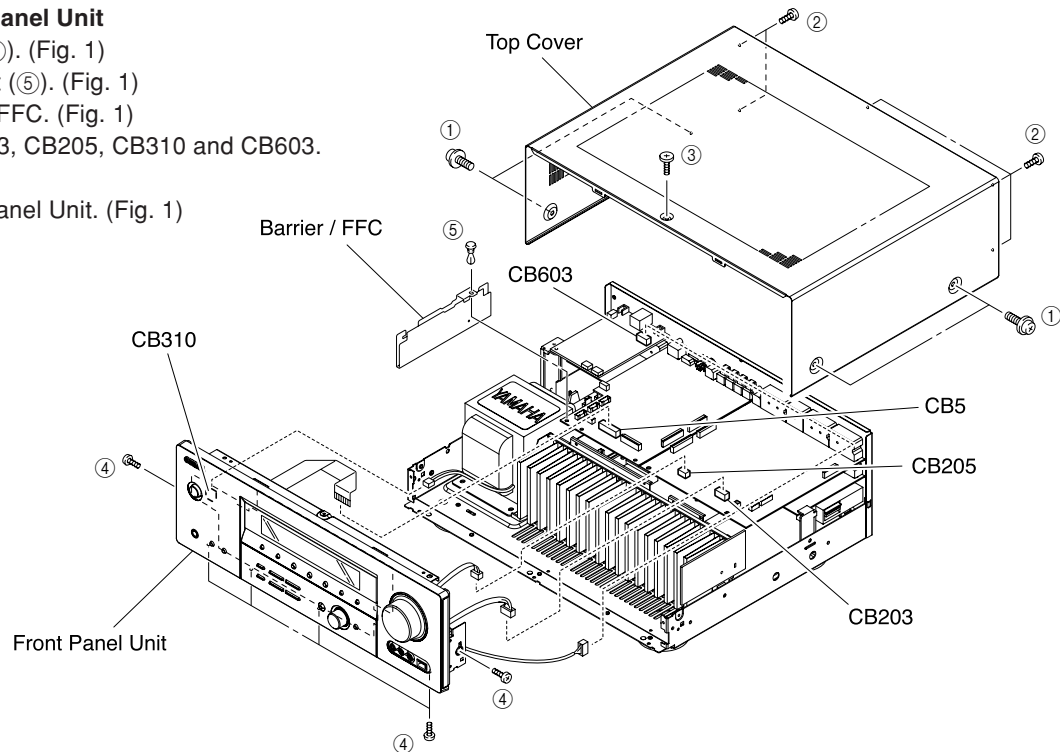

Fig. 1
(Fig. 1)
- b. Slide the Top Cover rearward to remove it. (Fig. 1)
- a. Remove 6 screws (④). (Fig. 1)
- b. Remove 1 push rivet (⑤). (Fig. 1)
- c. Remove the Barrier/FFC. (Fig. 1)
- e. Remove the Front Panel Unit. (Fig. 1)